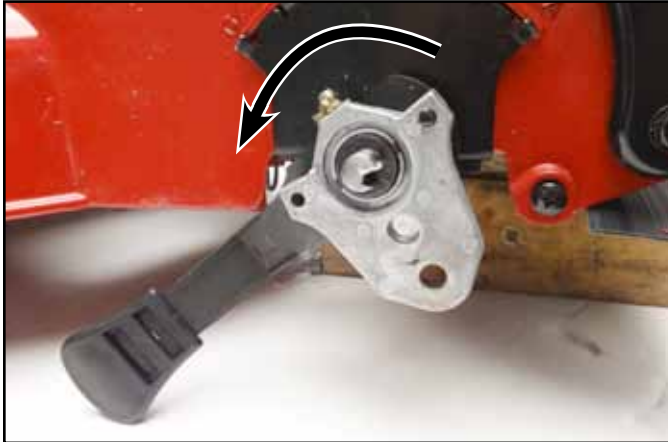

Fig. 166
1. Rotate both height-of-cut spring arms forward and down below deck to relieve tension on the locking ring clip (Fig. 166).